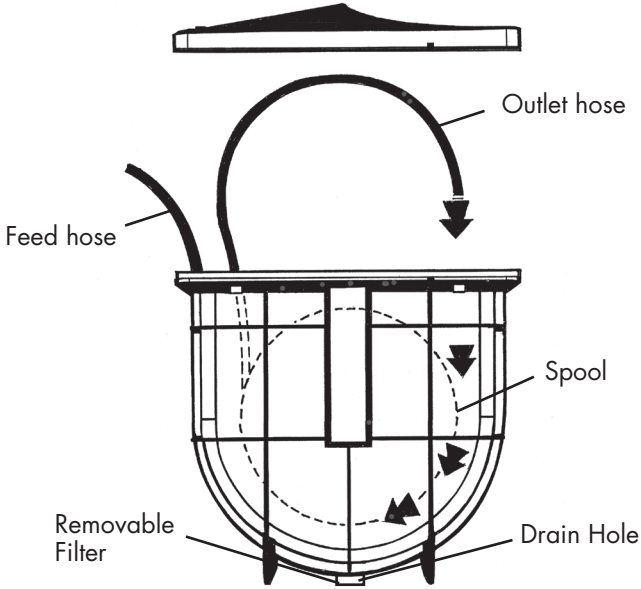

FIGURE.4
- Push the hose end back under the spool in the same direction that it's wound on. Be careful not to unlock the spool when doing this. (Fig.4 - pg5).
- When replacing the spool into casing, make sure the hose is fully wound onto the spool, slide spool into casing, then follow (Fig.4 - pg5). Usually 2-3 rotations is adequate (max.4).